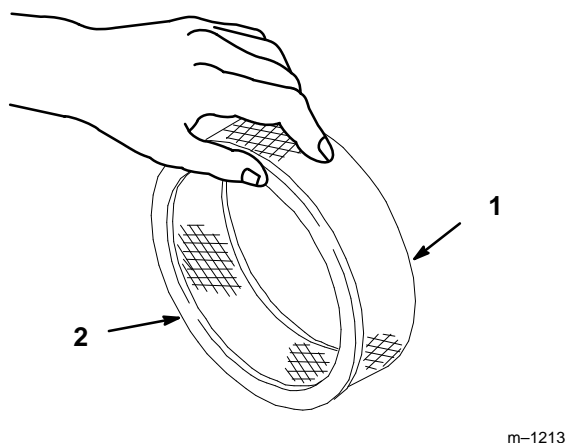

Figure 23
- A. Lightly tap the element on a flat surface to remove dust and dirt (Fig. 23).